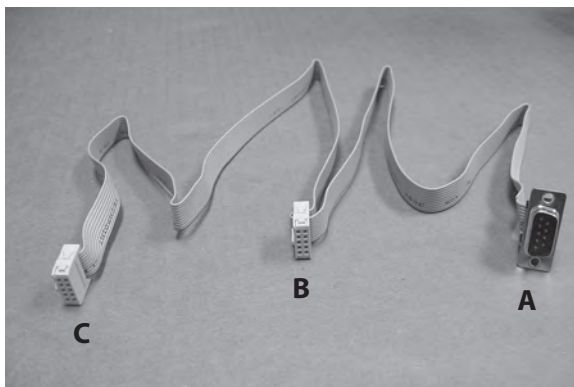

Figure 3
2. The stitch regulator, machine and carriage are connected by a ribbon cable that has 3 connectors (**Figure 3, page 9**). The machine should arrive from the factory with the ribbon cable already attached by Connectors A and B. The remaining end, Connector C, will be connected in Step 4.